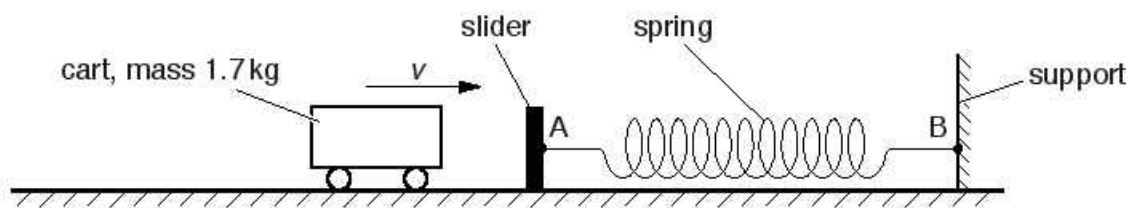

Fig. 4.1
- 20 A spring is kept horizontal by attaching it to points A and B, as shown in Fig. 4.1.